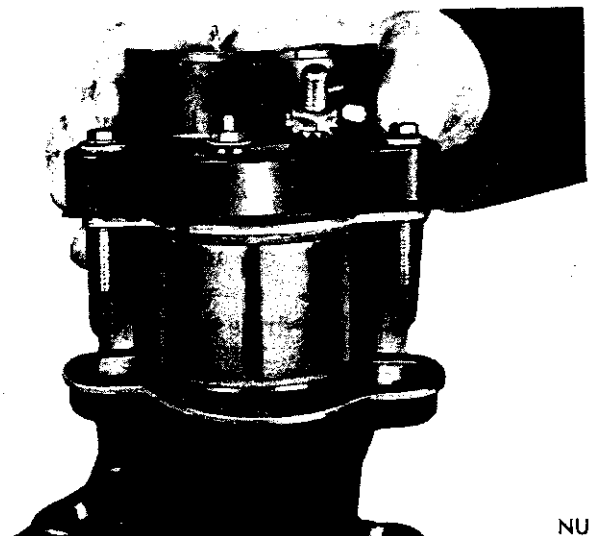

Fig. 20—Installing Solenoid and Brush Holder Into Gear Housing
(14) Install brush holder to solenoid attaching screws.
(15) Carefully enter solenoid coil and brush plate assembly into bore of gear housing and position brush plate assembly into starter gear housing (Fig. 20) and install housing attaching nuts. Tighten securely.